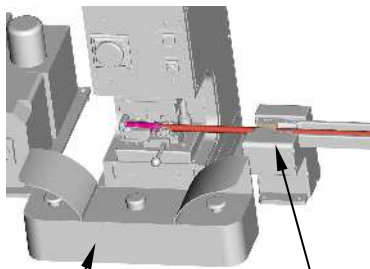

Fig. 9
5. Start the crimping process with the two-hand control (see Fig. 9). Press and hold the buttons of the two-hand control simultaneously until the crimping process is completed.